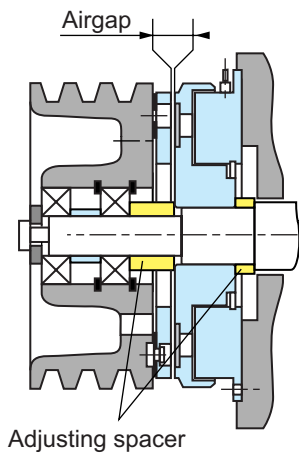
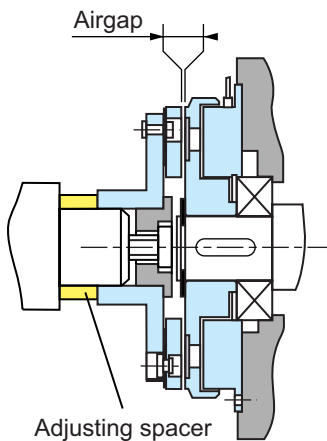

Fig. 3
Fig. 4
Inductor (104) should be fixed to the frame of the machine, centred by the collar (see figure 3) or directly centred on a bearing forming a support (see figure 4). In this case, a circlip fitted in the groove provided for the purpose holds it central to the bearing. In the case of collar centring, we specify an H9 tolerance.